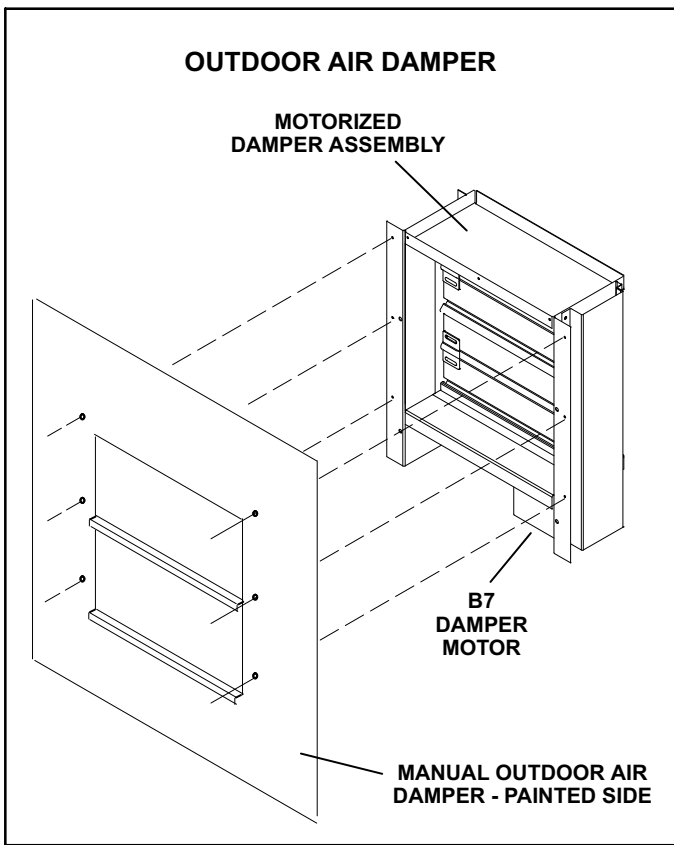

FIGURE 22
T1DAMP11A-1 is available for TGA 2, 2.5, 3, 4 and 5 ton unit and T1DAMP11N-1 is available for the TGA 6 ton units. Both sets include the outdoor air hood. A motorized kit (T1DAMP21AN1) can be ordered separately for all TGA unit sizes. The dampers may be manually or motor (M) operated to allow up to 25 percent outside air into the system at all times (see figure 22). Washable filter supplied with the outdoor air dampers can be cleaned with water and a mild detergent. It should be sprayed with Filter Handicoater when dry prior to reinstallation. Filter Handicoater is R.P. Products coating no. 418.